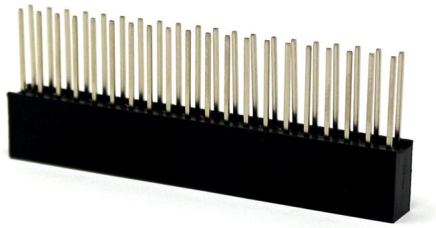

Fig. 2.2: Raspberry Pi HAT Connector - 10 mm Extended Tail Socket
- A stacking header block, such as pictured in Fig. 2.2 to mount the XK-VOICE-SQ66 development kit board onto the Raspberry Pi using the standard 40 pin GPIO header. A suitable part is Toby REF-182668-01.